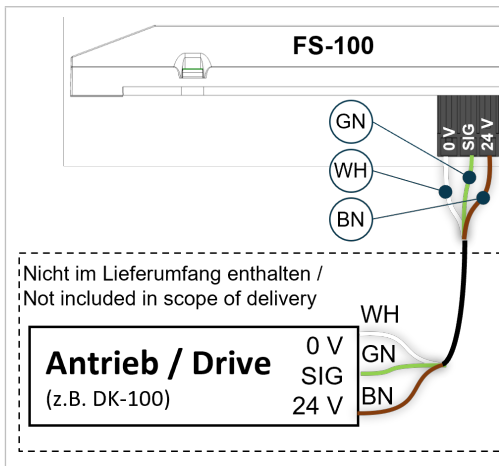

Abb. 9: Connection diagram FS-100 (e.g. DK-100)
- Insulate the conductors of the drive connection line up to a suitable length and connect them to the OUT terminal on the **FS-100** as shown in the connection diagram (fig. 9).